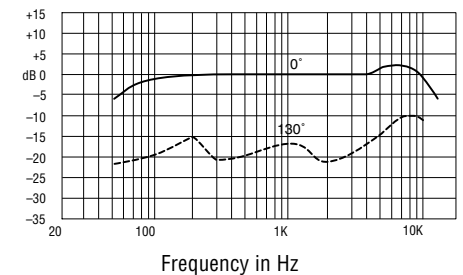

Fig. 2
**Polar pattern:** Half-supercardioid (supercardioid in the hemisphere above the primary boundary). See Figs. 2 and 3.